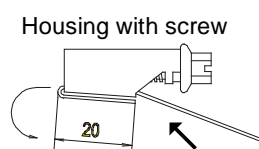

Figure 8: Strap housing
2. Insert the strap into the housing from the screw head side, and bend a projection of 20mm over the ridge (**Figure 8**).